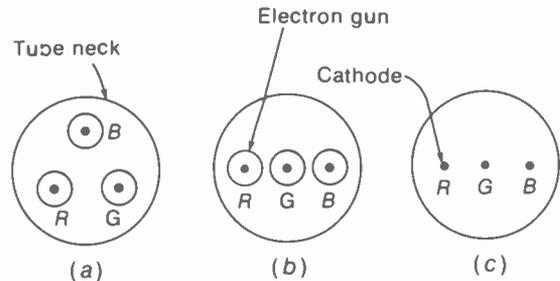

FIGURE 10-12 METHODS OF HAVING THREE ELECTRON BEAMS IN ONE PICTURE TUBE. (a) DELTA GUNS. (b) IN-LINE GUNS. (c) ONE GUN WITH THREE IN-LINE CATHODES.
**Electron-gun arrangements.** See Fig. 10-12. In a, the three guns are  $120^\circ$  apart in a circle. This form is called a *delta-gun assembly*. Because of the equal spacing, each gun can have the maximum possible size in the tube neck. However, the convergence adjustments must correct for the guns in different planes.